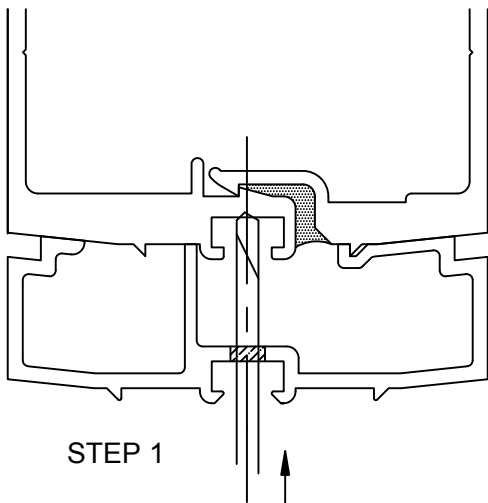

**FIGURE 37**
- T.1 Glazing adaptors at captured vertical mullions and jambs and horizontals require the WW-145 adaptor to be hooked into the notch (Step 1) at the mullion stem and then rotated and snapped into place (step 2). SEE FIGURE 37
- T.3 All adaptors must have bead of sealant (Step 3) around the interior perimeter SEE FIGURES 37, 38, 39 & 40, sealant tooled and corner of adaptors sealed.